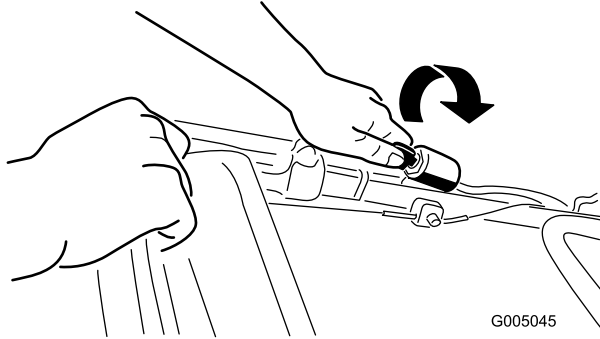

Figure 15
1. Turn the ignition key (Figure 15) or pull the recoil start handle (Figure 16).